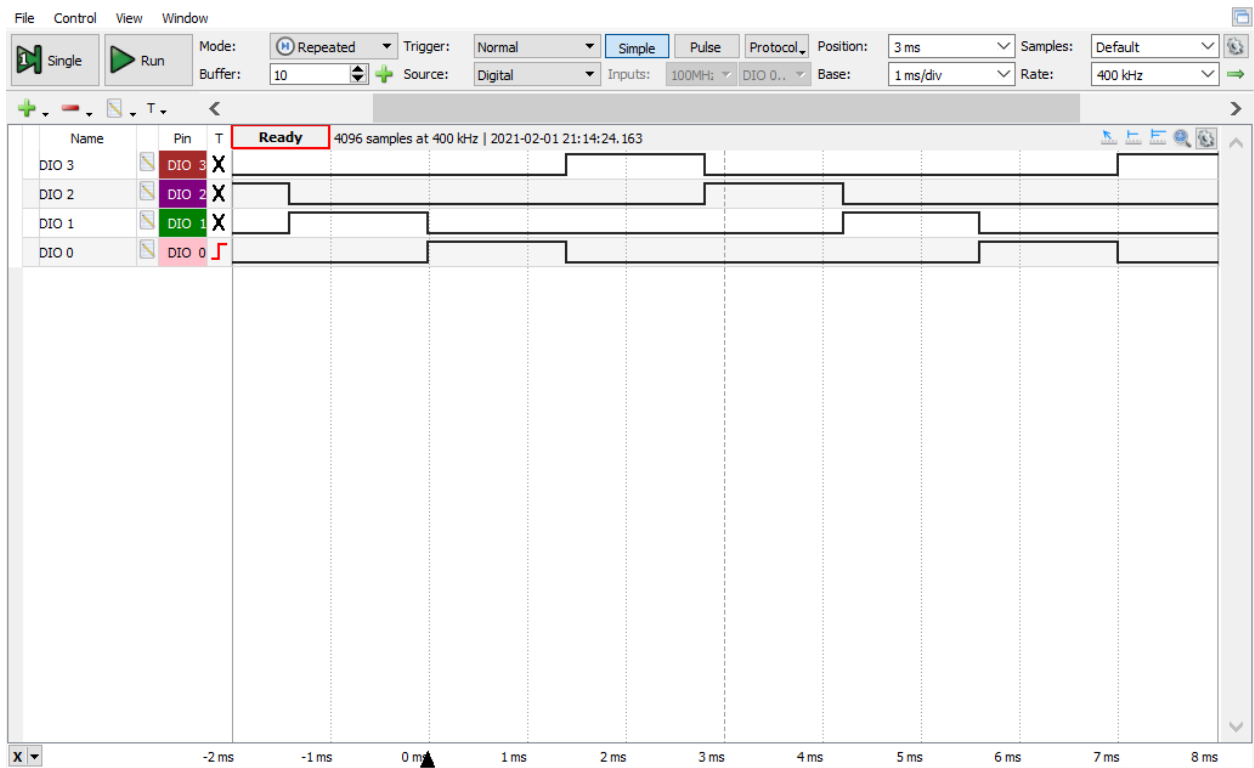

Figure 2: Logic Analyzer Capture.
- A screen capture of the logic analyzer capture of the `en3` through `en0` signals showing the required digit enable order. This might look like Figure 2.